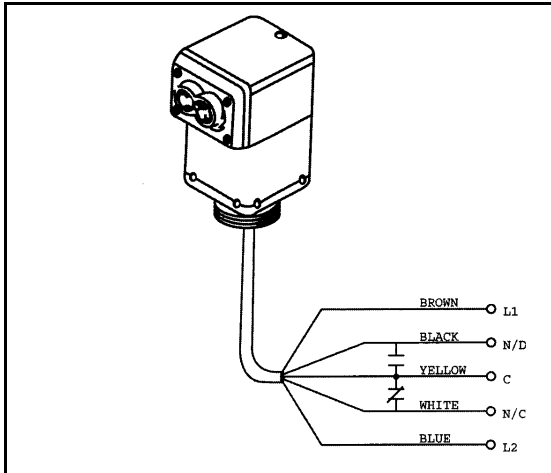

Figure 31. Optic Probe.
4. Wire sensor per diagram, Figure 31.